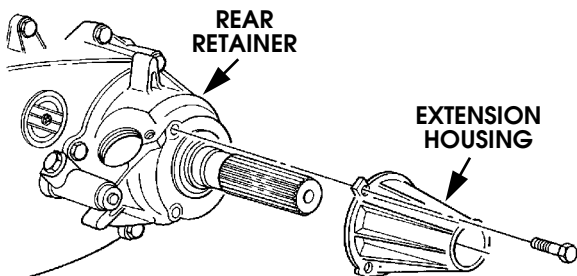

Figure 5-169: Extension Housing Installation
41. Align and install extension housing on rear retainer (Figure 5-169). Install and tighten housing bolts to 20-25 lb-ft (27-34 N•m).